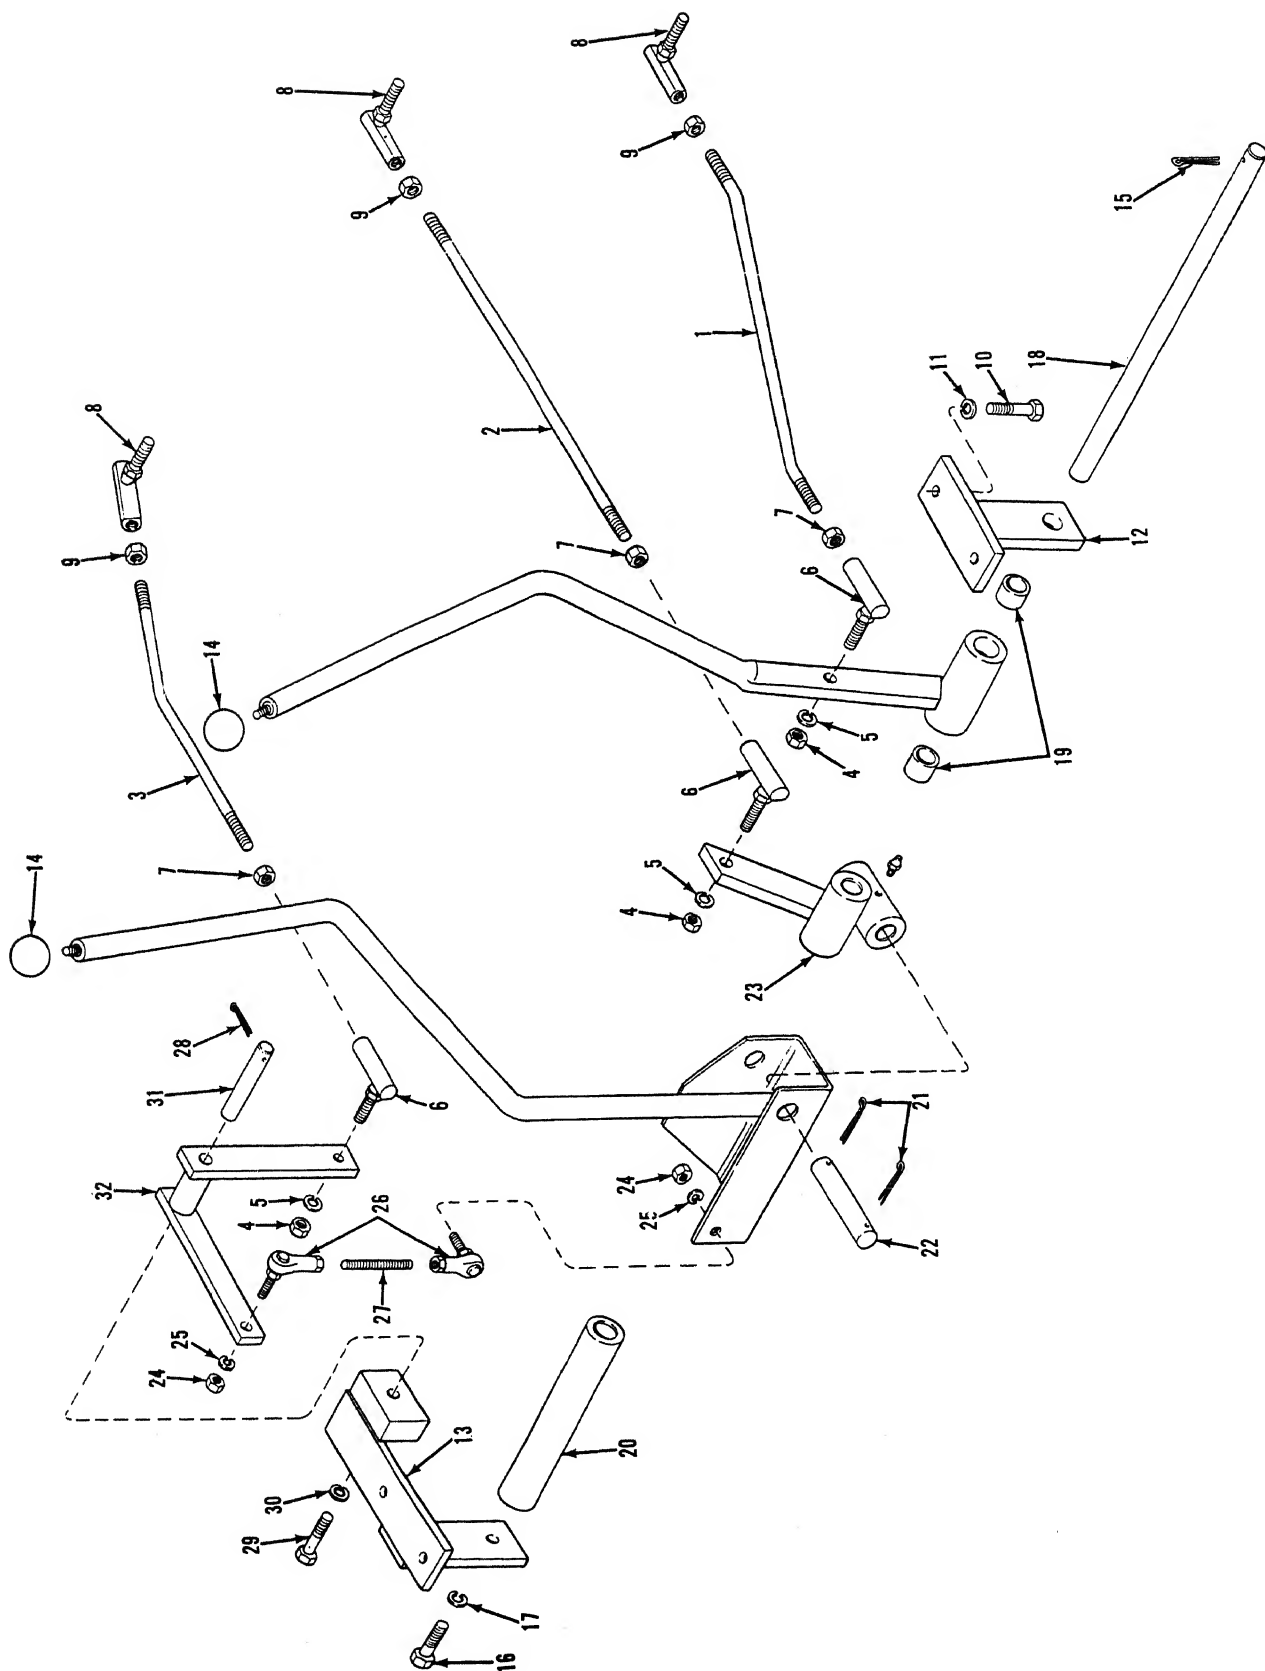

Figure 4-47. Control linkage, exploded view.
b. *Removal.* Refer to figure 4-47.
(1) Remove spool links (1, 2 and 3) as follows:
KEY to fig. 4-47: